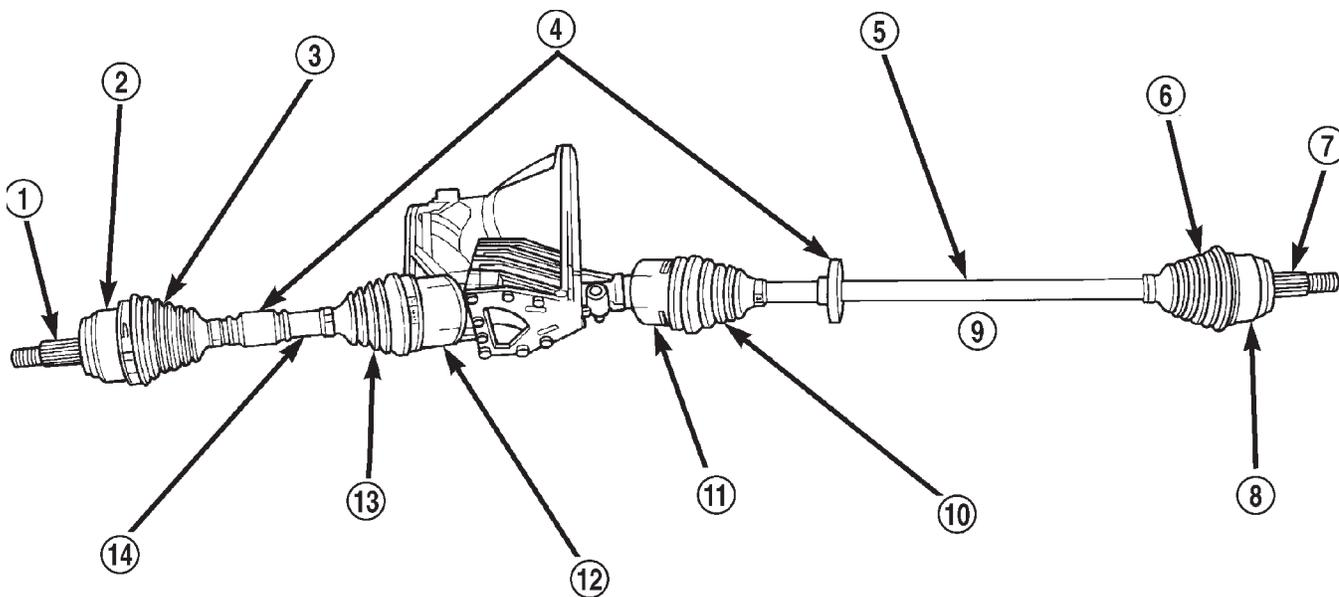

Fig. 1 Unequal Length Driveshaft System
The system incorporates two driveshaft assemblies (left and right) that consist of an inner and outer constant velocity (CV) joint and a solid interconnecting shaft (Fig. 1). The right driveshaft is longer than the left due to transaxle packaging and powertrain design.
Driveshafts used on both the right and left sides of the vehicle use a tuned rubber damper weight mounted to the interconnecting shaft (Fig. 1). The damper weight applications vary by which side of the vehicle the driveshaft is located on and the transmission application of the vehicle. When replacing a driveshaft, be sure the replacement driveshaft has the same damper weight as the original.